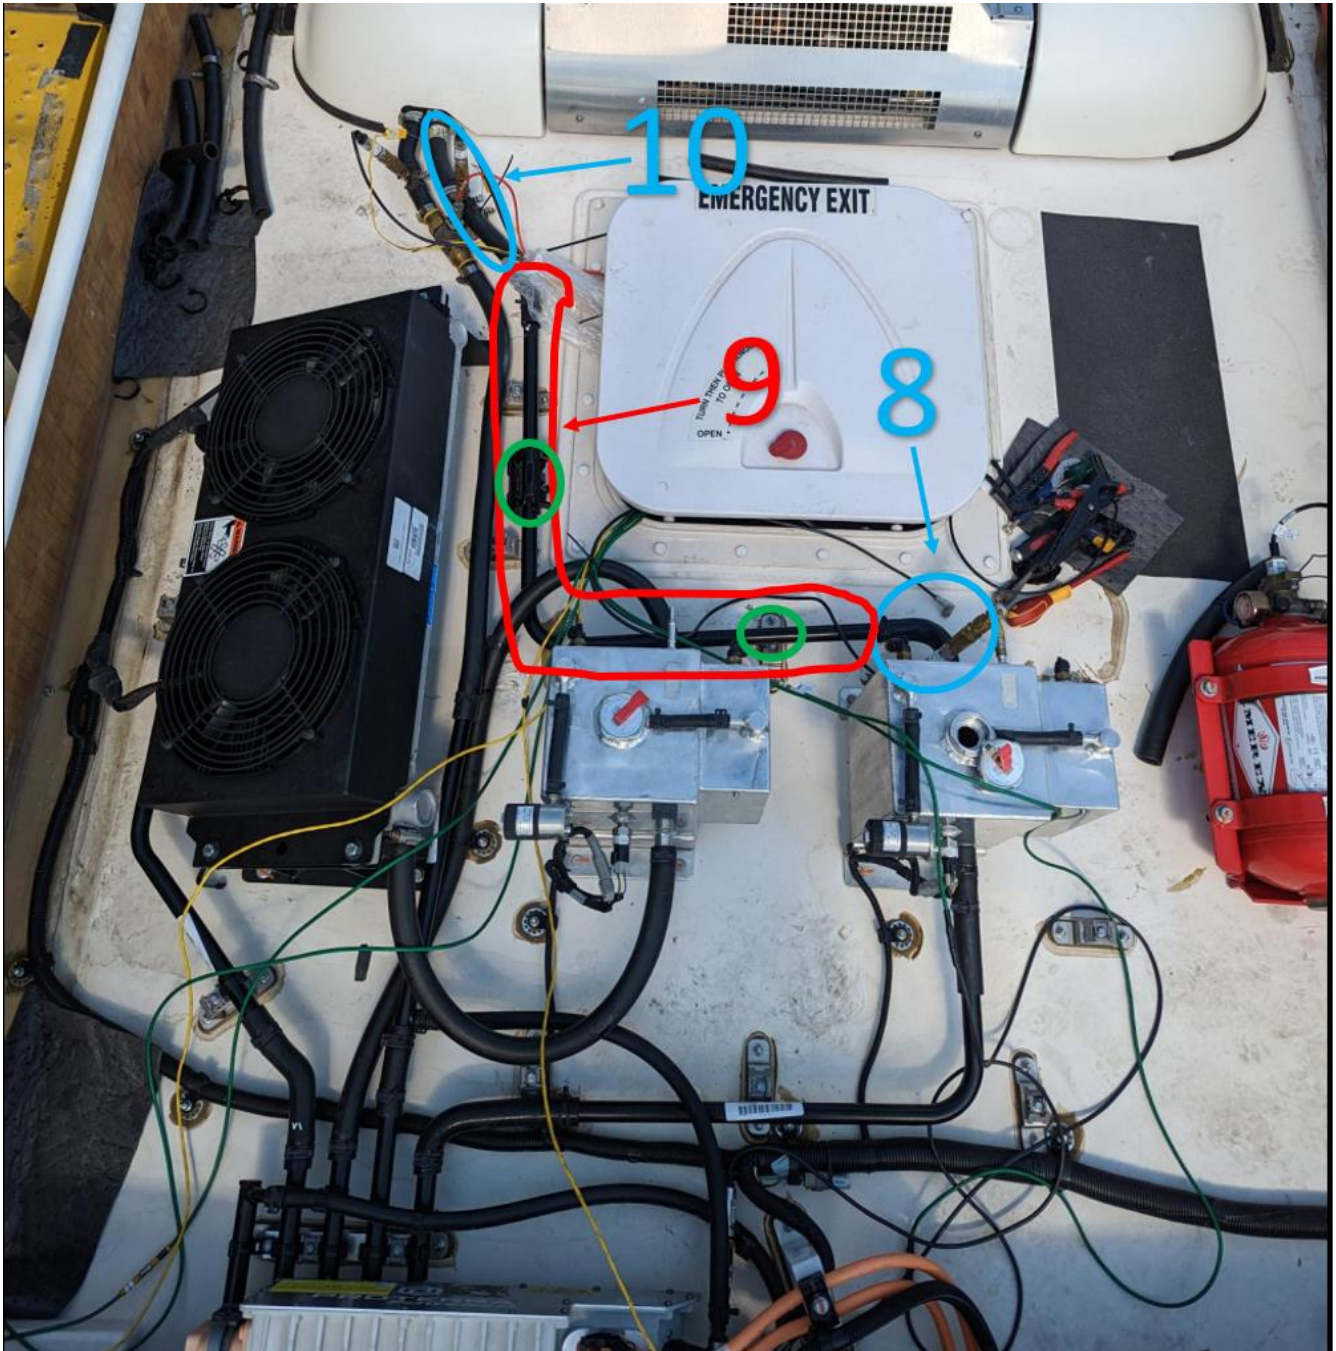

Figure 7
- Reference Figure 7 for part callouts. Attach the #9 "L" hardline to the #8 flexible hose connected to the expansion tank. Secure with a spring clamp. Measure and cut (if necessary) the #10 flexible hose attached to the HVAC system and connect to the end of the #9 hardline. Secure with a spring clamp.